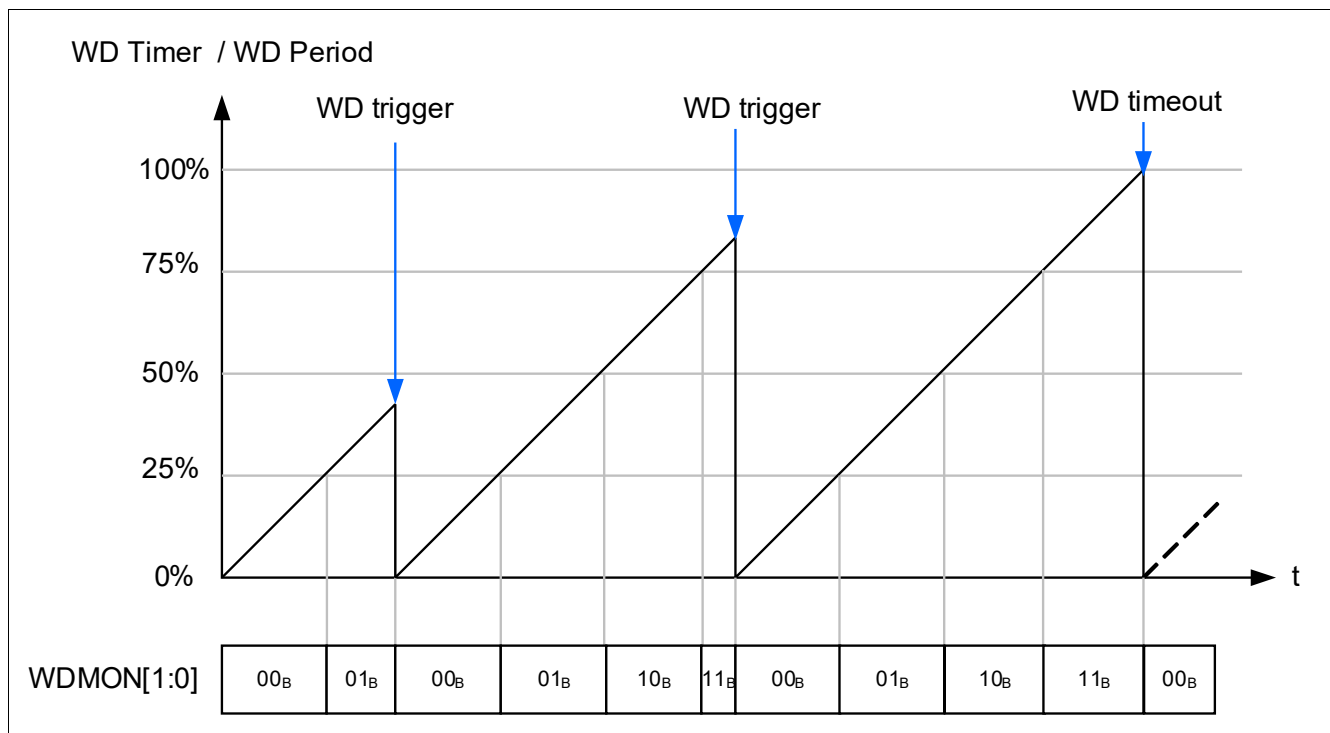

Figure 38 Example of watchdog monitoring and watchdog timeout
- The watchdog trigger bit is not served within the watchdog period (watchdog timeout event). See **Figure 38**³⁾.
The status bits **WDMON**[1:0] report the relative position of the watchdog timer to the watchdog period. Refer to **Table 21** and **Figure 38**. This allows the detection of a potential latent failure associated to the watchdog timer: the microcontroller can indeed verify that the watchdog timer is running.